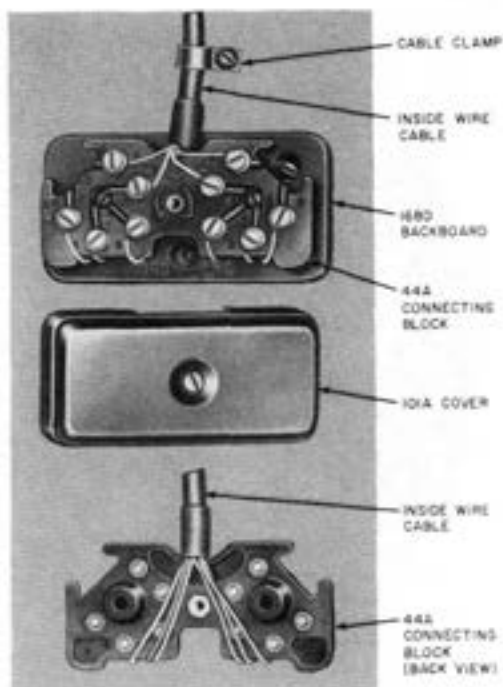

Fig. 5—1044A Connecting Block (44A Connecting Block and 101A Cover) With 168D Backboard
D. 44A Connecting Block (Fig. 5)